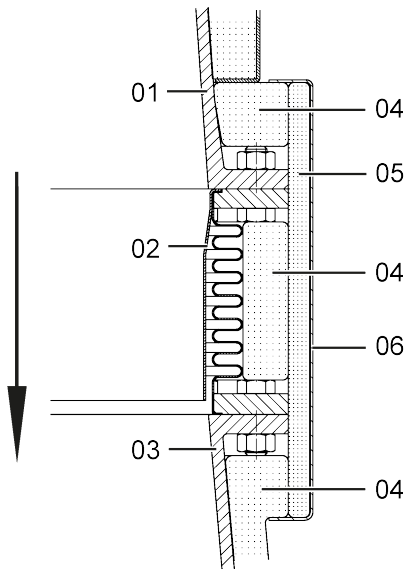

Fig. 12: Noise insulation, bellows
- Bellows at the air-outlet has been acoustically insulated by the enginebuilder (see Fig. 12: Noise insulation, bellows →24).